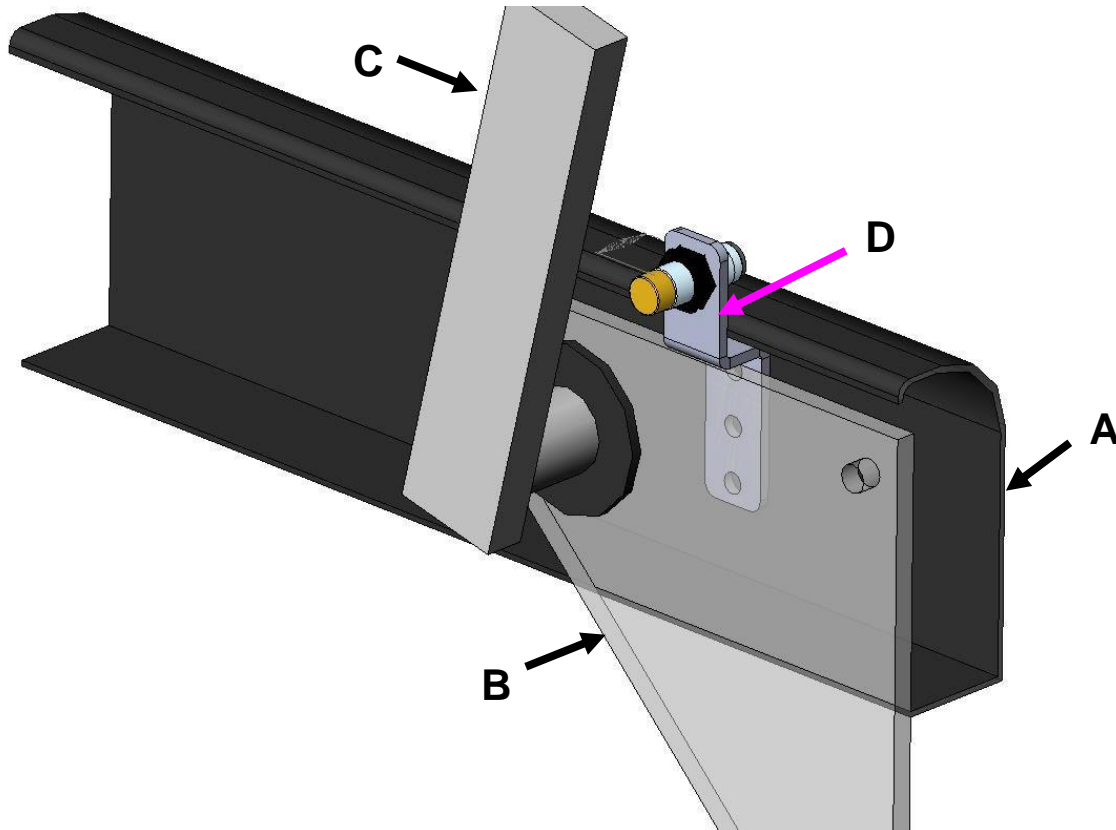

Figure 36
Locate the area shown in Figure 36 on the baler. In Figure 1 the area is shown standing at the front of the baler and looking to the back. The bracket will mount on the steel next to the bearing on the gathering fork. Point (A) is the sheet metal on the back of the baler, point (B) is the steel that holds the gathering fork bearing, point (C) is the back arm on the gathering fork.